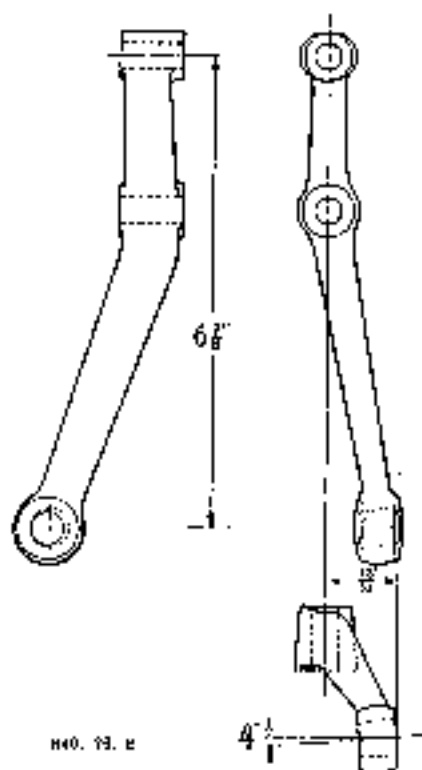

Fig. 7. Checking the alignment of a swivel arm (modified)
(1) Place a rule along the brake back-plate so that it projects alongside the arm. The distance between the centre of the ball pin seating hole and the rule should be $\frac{3}{8}$ -in. plus or minus $\frac{1}{16}$ -in.
(2) Place a straight-edge across the centre of the ball holes used to secure the arm to the swivel axle. The distance between the straight-edge and the lower face of the arm machined face against which the ball pin nut fits—should be $\frac{1}{4}$ -in. plus or minus $\frac{1}{16}$ -in. (See Fig. 7.)